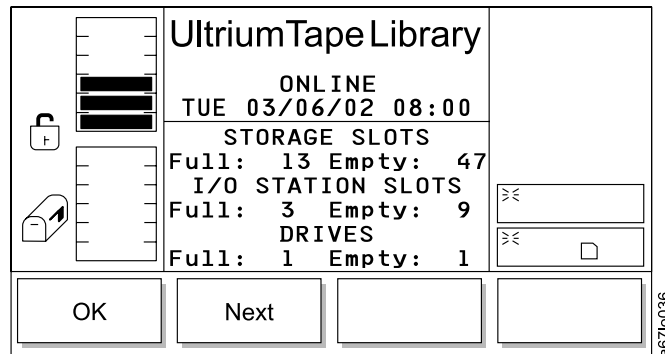

Figure 83. System Dialog
- If **System** is selected, the System Dialog displays (see Figure 83 on page 93).